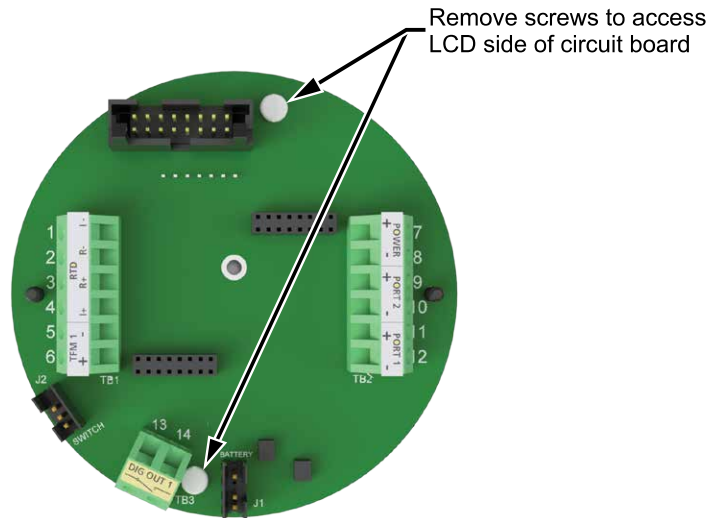

Figure 5.6 - Disassembly of circuit board/keypad assembly
10. Remove the two #4-40 × 5/16" screws fastening the circuit board to the keypad (Figure 5.6, pg. 90).